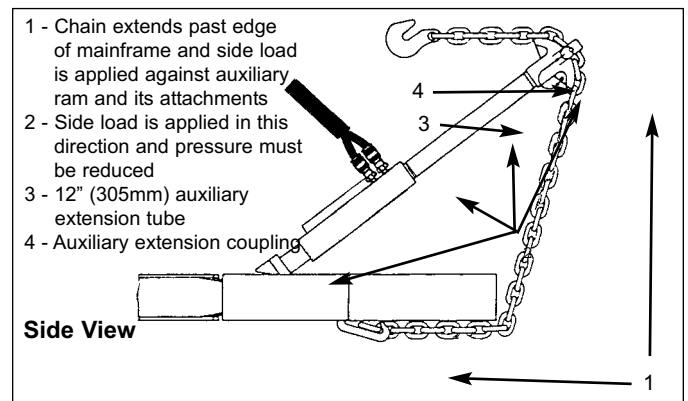

Figure 8
2. If using auxiliary ram as shown in Figure 8, use low pressure and watch closely so it does not bow due to side load. As more extension tubing is added, side load becomes more severe.